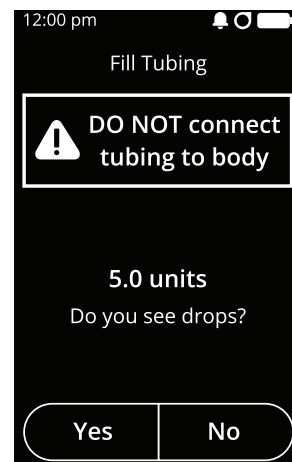

Figure 66
- Tap **Yes** if you see drops without air bubbles in your tubing (see Figure 66). Tapping **No** will take you back to the **Press & Hold** screen.